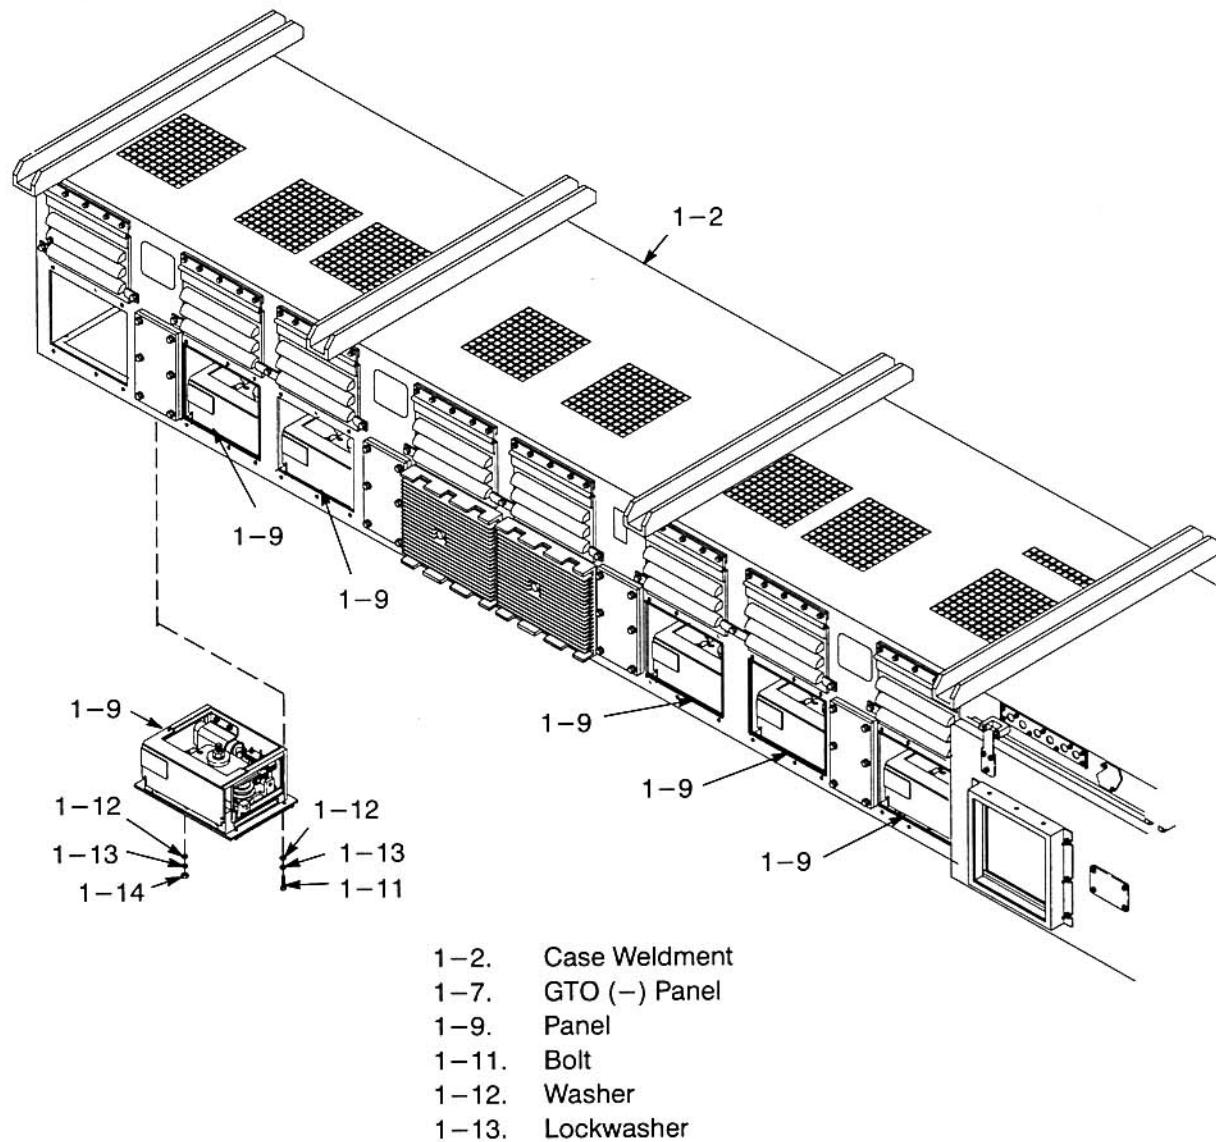

Figure 7-97 Remove/Install GTO (-) Phase Module
- b. Remove/install hardware (1-11, 1-12, 1-13, 1-14, Figure 7-97) which secures panel (1-9) to the case weldment (1-2). Torque hardware to 10-11 ft. lbs.